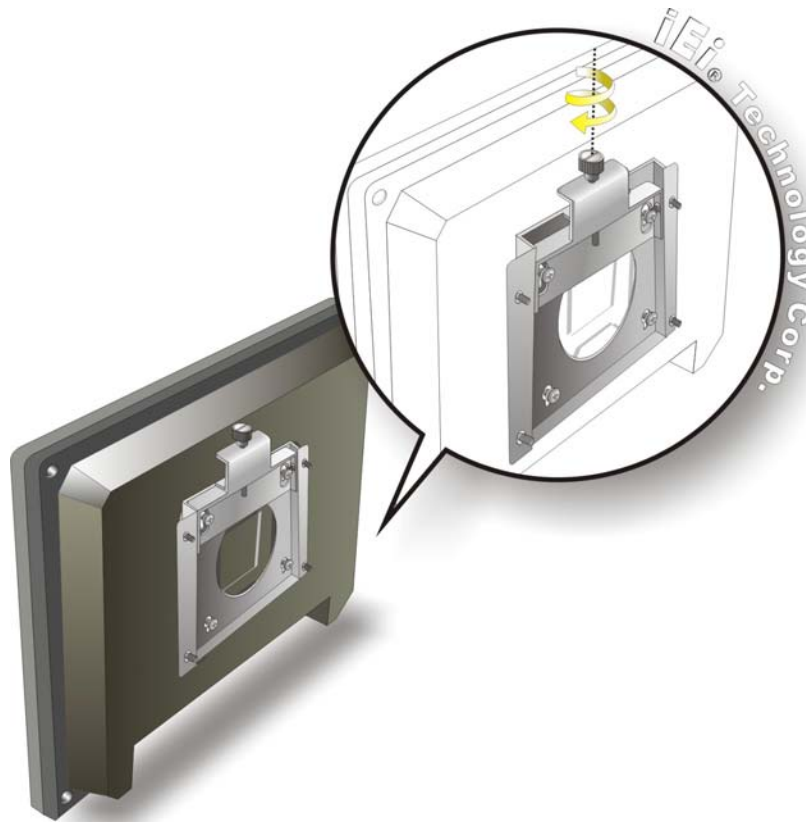

Figure 3-12: Secure the Panel PC
- Step 9:** Secure the panel PC by fastening the retention screw of the wall-mounting bracket. (Figure 3-12).